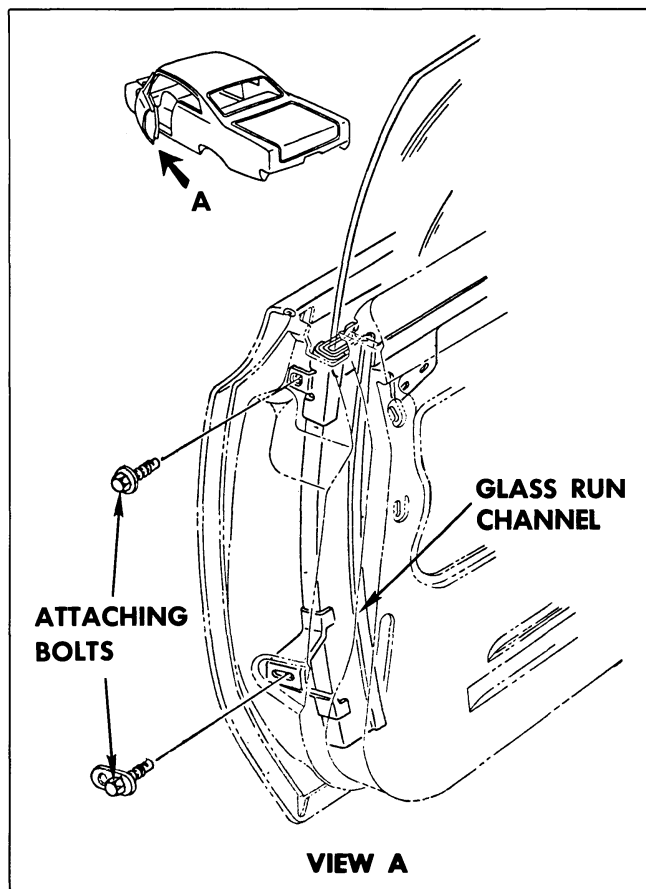

Fig. 12-34 Run Channel - 67 Styles
4. To install, reverse removal procedure (See Fig. 12-34).